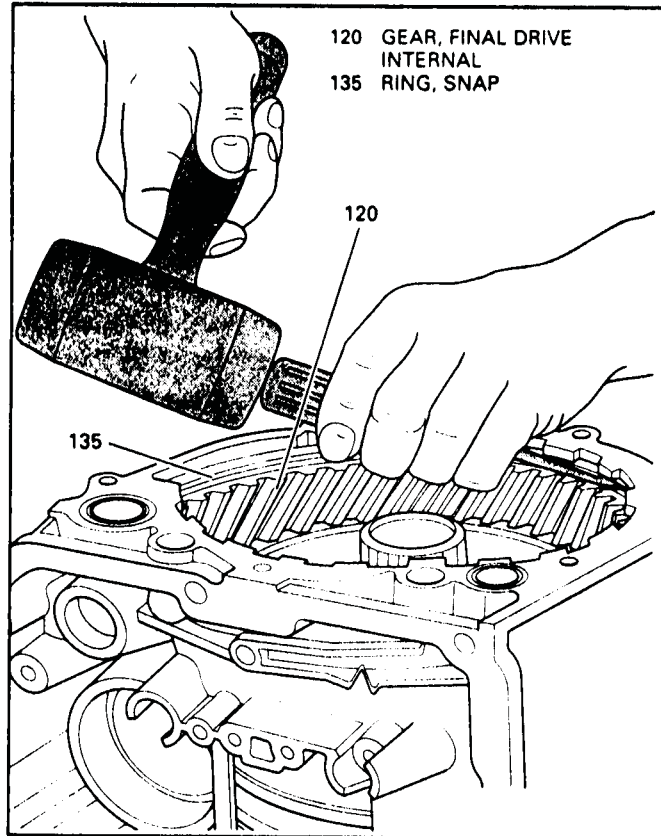

Figure 98
4. Install final drive ring gear into the case as shown in Figure 98.
7. Set the snap ring with screwdriver and mallet, as shown in Figure 98.